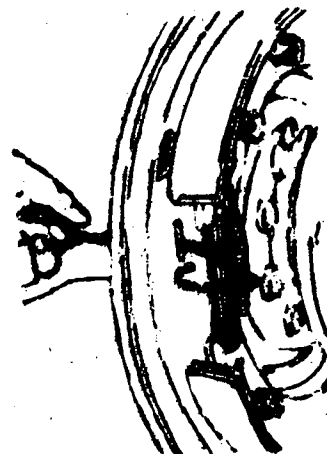

Fig. 2
- a) Loosen the adjusting nut or screw. This will relieve all tension from the braking system (Fig. 2).